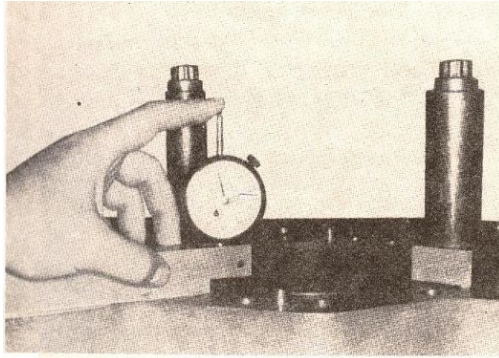

Fig. 1-5. Checking the liner protrusion
- ii. Use a ST-547 Gauge Block and check the liner protrusion above the cylinder block at four equidistant points outside the bead. Fig. 1-5 Add or remove shims